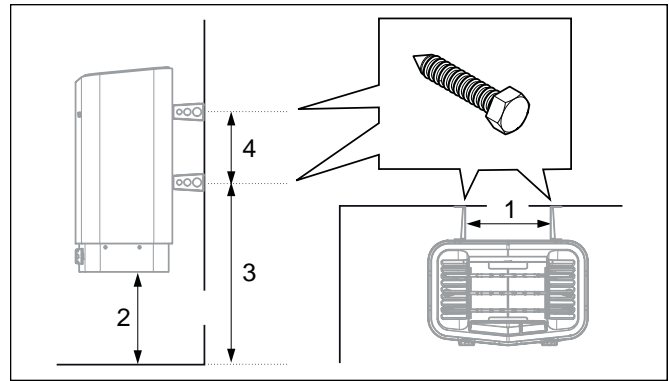

Figure 8: Dimensioning
2. Position the bracket screws according to the specified dimensioning see Figure 8, Page 4.